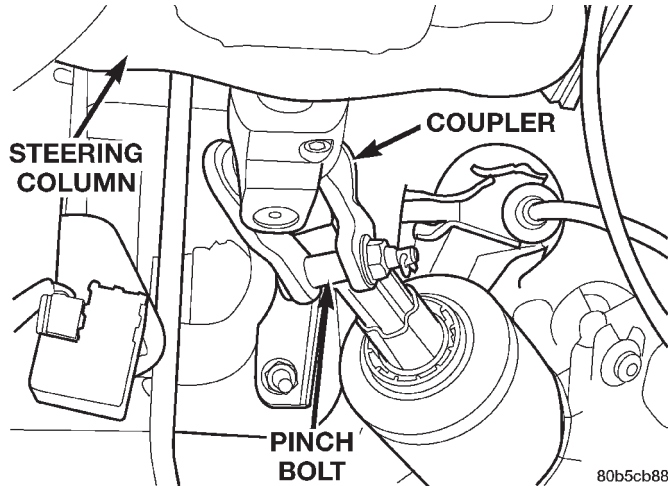

Fig. 24 Steering Column Coupler To Intermediate Shaft Attachment
(30) Remove retaining pin in steering column coupler pinch bolt (Fig. 24). Remove the pinch bolt from the steering column coupler. **Pinch bolt nut is caged to coupler and is not removable. Separate the steering column flex coupler from steering intermediate shaft.**
(3) Assemble the intermediate steering shaft to the steering column flex coupler (Fig. 24). Tighten the coupler pinch bolt nut to a torque of 27 N·m (240 in. lbs.). **Be sure to install steering coupler pinch bolt retaining pin.**